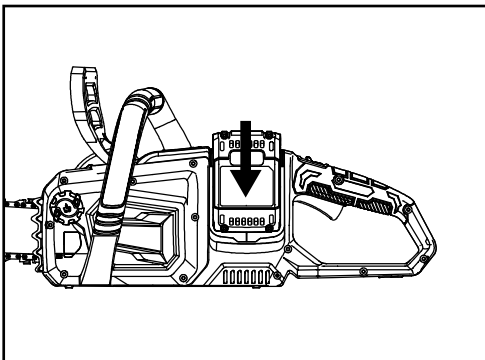

Fig.2
5. Installing and removing battery pack(Fig.2)